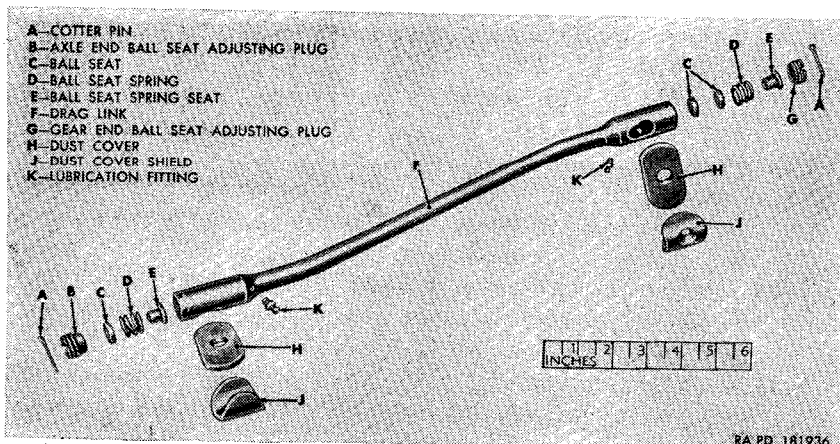

Figure 153. Drag link assembly—exploded view.
*Note.* The key letters noted in parentheses are in figure 153, except where otherwise indicated.